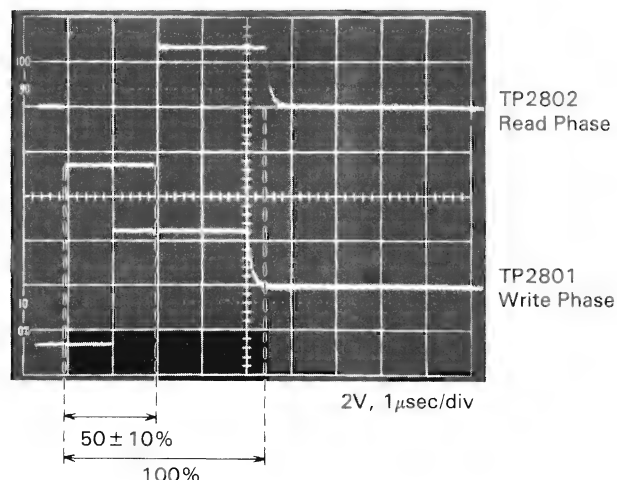

Figure 2-10
3. Connect an oscilloscope to TP2801 and adjust C2804 (Write Phase Adj.) for a duty cycle of  $50 \pm 10\%$ . (Fig. 2-10)
3. Connect an oscilloscope to TP2802 and adjust C2810 (Read Phase Adj.) for a duty cycle of  $50 \pm 10\%$ . (Fig. 2-10)